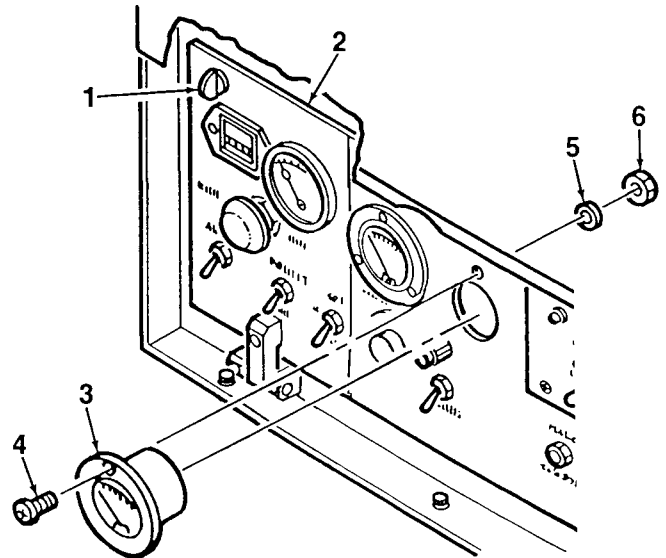

Figure 4-8. LOAD Meter
1. Turn quarter-turn fasteners (1, Figure 4-8) to unlock and open control panel (2).
2. Tag and disconnect electrical wiring from the rear of LOAD meter (3).
3. Remove LOAD meter (3) from control panel (2) by removing three screws (4), lockwashers (5), and nuts (6).
1. Mate LOAD meter (3, Figure 4-8) to control panel (2). Secure using three screws (4), lockwashers (5), and nuts (6).
2. Connect electrical wiring to the rear of LOAD meter (3).
3. Close control panel (2) and lock in place using quarter-turn fasteners (1).